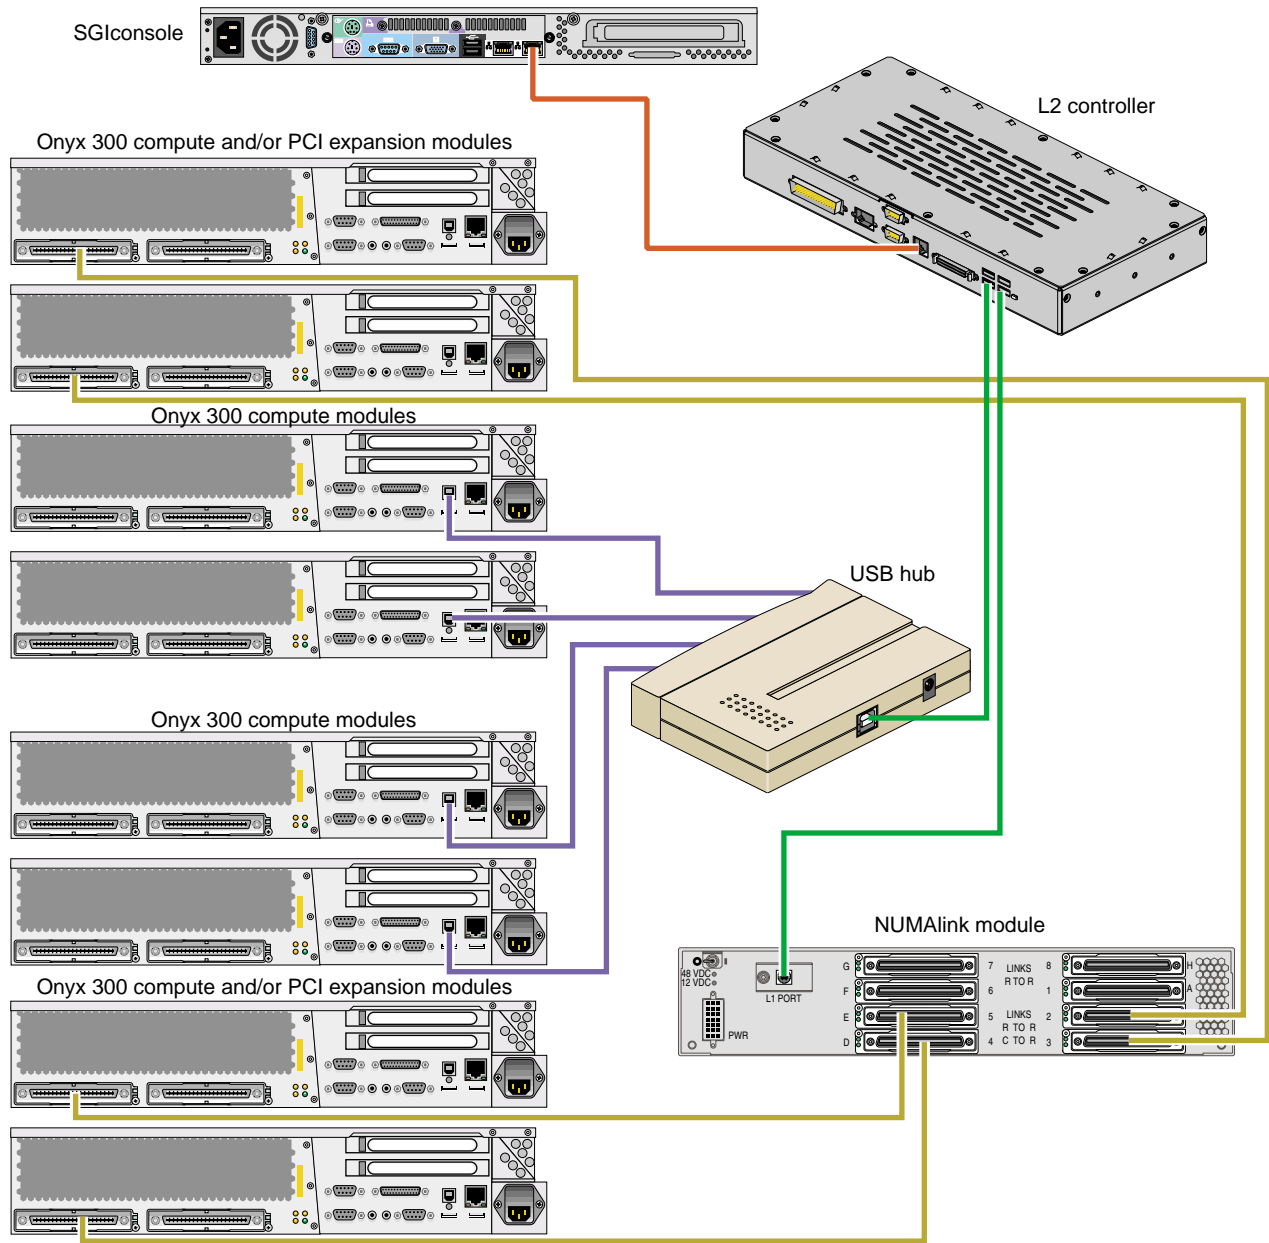

Figure 2-12 NUMalink Module and USB Hub Connections to the L2 Controller
- NUMAlink module (refer to Figure 2-12)
Figure 2-12 shows how the components of a graphics system that contains a NUMAlink module connect to the L2 controller.